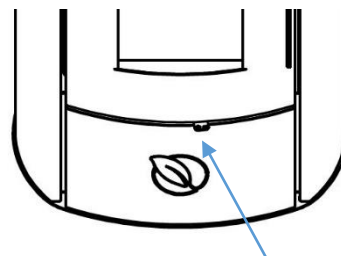

Figure 18
- * By turning the regulator to the right (Figure 18), both the primary and secondary air intakes are closed.